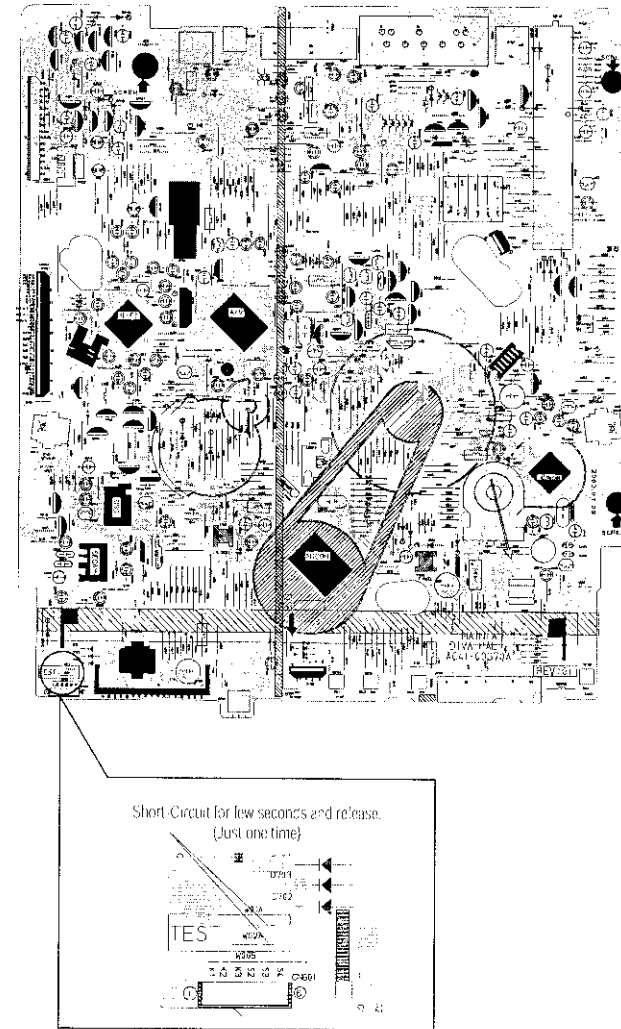

Fig. 6-2 VCR Main PCB (Top View)
- 2) Intermittently short-circuit the two Test Points on VCR Main PCB while setting the adjustment mode. (See Fig. 6-2)
- 3) Intermittently short-circuit the two Test Points on VCR Main PCB. (See Fig. 6-2)
- 2) Intermittently short-circuit the two Test Points on VCR Main PCB. (See Fig. 6-2)